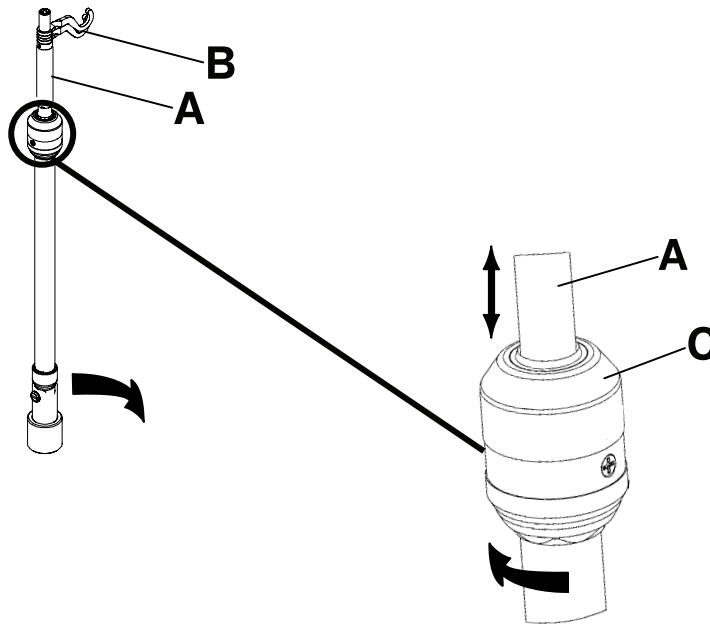

Figure 1-120: Operating the IV pole
3. To raise the height of the pole, pull up on the telescoping portion (A) until it locks into place at its fully raised position (Figure 1-120 on page 1-104).
4. Rotate the IV hangers to the desired position and hang the IV bags (B) (Figure 1-120 on page 1-104).
5. To lower the IV pole, turn the latch (C) until the telescoping portion lowers (Figure 1-120 on page 1-104).